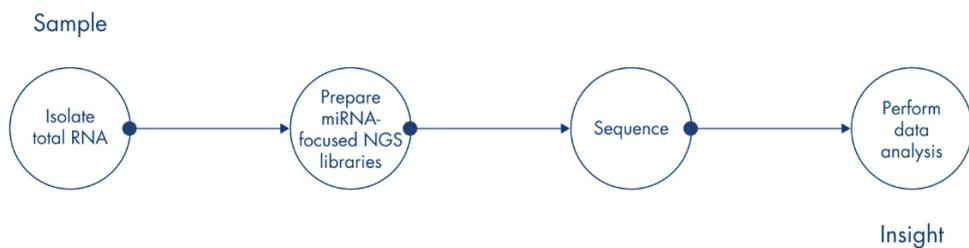

Figure 1. QIAGEN's Sample to Insight QIAseq miRNA workflow.
In recent years, NGS has emerged as a highly advanced research tool for both high throughput miRNA expression analysis and novel miRNA discovery. Among commercially available solutions, QIAseq miRNA defines a new generation of small RNA sequencing products and includes several distinct features not found in other sequencing kits. The standard QIAseq miRNA procedure does not require gel purification, excision, and elution, which substantially reduces the required hands-on time and noticeably shortens the length of the whole workflow. Proprietary methodology utilizing modified oligonucleotides efficiently prevents adapter-dimerization in the sequencing library and the highly optimized reaction chemistry virtually eliminates biases and background contaminants, facilitating the preparation of robust, miRNA-specific libraries. The kit also integrates UMIs into the reverse transcription process, enabling unbiased and accurate miRNA-wide quantification of mature miRNAs by NGS. Should a library fail presequencing quality control (QC), in-line controls are included in the library generation procedure to allow the use of real-time PCR for fast and efficient troubleshooting. Both primary and secondary data analysis solutions have been developed to facilitate rapid and robust UMI counting, miRNA mapping, and differential expression analysis. Overall, QIAseq miRNA offers an unrivaled Sample to Insight solution for differential expression analysis and discovery of novel miRNAs using NGS (Figure 1).